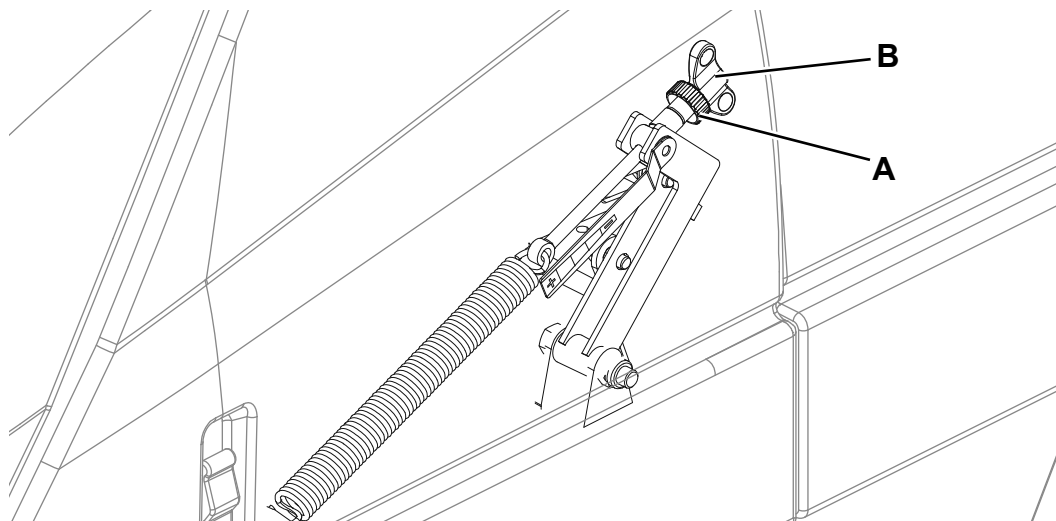

Figure 3
3. Turn the ignition key (57) and start the machine.
4. Lower the main broom with the lever (53) and let it run for 1 minute.
7. To adjust, open the battery compartment hood (1) by using the unlocking push-button (25), loosen the knob (A, Fig. 3) and operate on the main broom adjuster (B) by considering the following:
- When turning counter-clockwise, the side broom pressure and pattern is increased.After adjusting, lock the adjuster with the knob (A).